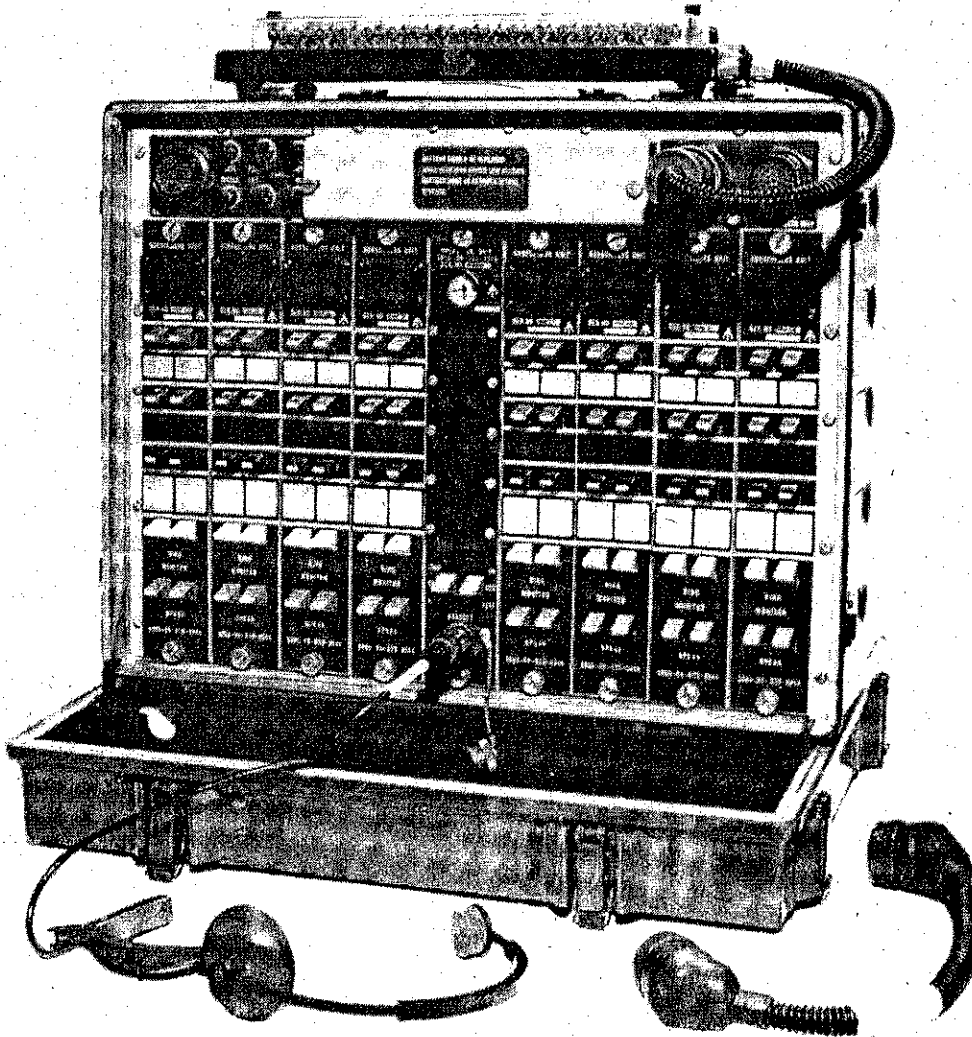

Fig 11 SWITCHBOARD IN OPERATING POSITION
- (5) Allow the Switchboard to return to a position where the back of the Unit is resting against the end-stops of the brackets. The Unit is now held by the brackets in the operating position, ie, tilted slightly backwards at about 15 degrees from the vertical. (Fig 11).
- (6) Position the 16-LINE Protection Unit on the top of the Magneto Switchboard, with the terminals facing towards the rear of the Unit, so that the captive screws at each end of the Protection Unit mate with the holes in the top of the Switchboard. Secure by turning the screws, DO NOT overtighten.
- (7) Ensure that all the protectors are in position on the Protection Unit.
- (8) Connect the 41-way cable, attached to the Protection Unit, to the socket marked LINE TERM on the front panel of the Switchboard.
- (9) Connect the Hand / Headset to the socket marked HANDSET on the front panel of the Switchboard.
- (10) Connect each pair of subscriber telephone lines to the terminal pairs on the 16-LINE Protection Unit.
(11) Drive the Earth Spike into the ground at the nearest convenient point, and connect BOTH of the spade terminations of the braid from the spike to the terminal marked 'E' on the Protection Unit. The Earth connection on the face of the Magneto Switchboard is used for Failure Diagnostics and is NOT connected to the Earth Spike braid.